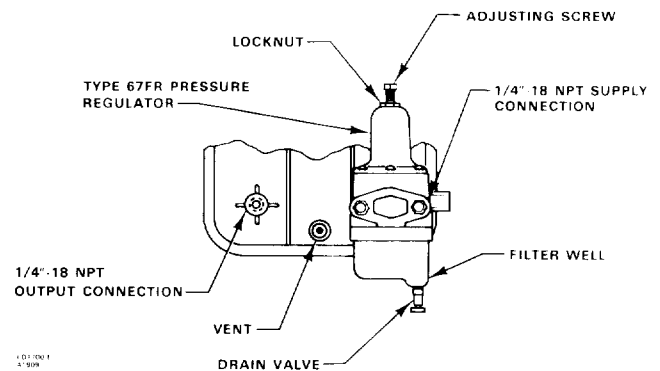

Figure 9. Pressure Connections
The output pressure connection is on the back of the controller/transmitter case (figure 9). Pipe the supply pressure to the IN connection of the regulator mounted to the case back. Provide a clean, dry, and noncorrosive air or gas supply to the controller/transmitter as follows:
1. Turn on the supply pressure and check that the SUPPLY gauge reads 20 psig for a 3 to 15 psig or 35 psig for a 6 to 30 psig output pressure range. If necessary to adjust the Type 67FR regulator, loosen the locknut (figure 9) and turn the adjusting screw clockwise to increase or counter-clockwise to decrease pressure. Be sure to tighten the locknut after setting the pressure.
1. Turn on the supply pressure and check that the SUPPLY gauge reads 20 psig for a 0 to 20 psig or 35 psig for a 0 to 35 psig output pressure range. If necessary to adjust the Type 67FR regulator, loosen the locknut (figure 9) and turn the adjusting screw clockwise to increase or counter-clockwise to decrease pressure. Be sure to tighten the locknut after setting the pressure.
1. Turn on the supply pressure. If necessary to adjust the Type 67FR regulator to produce the desired differential gap, loosen the locknut (figure 9) and turn the adjusting screw clockwise to increase or counterclockwise to decrease pressure. Be sure to tighten the locknut after setting the pressure.